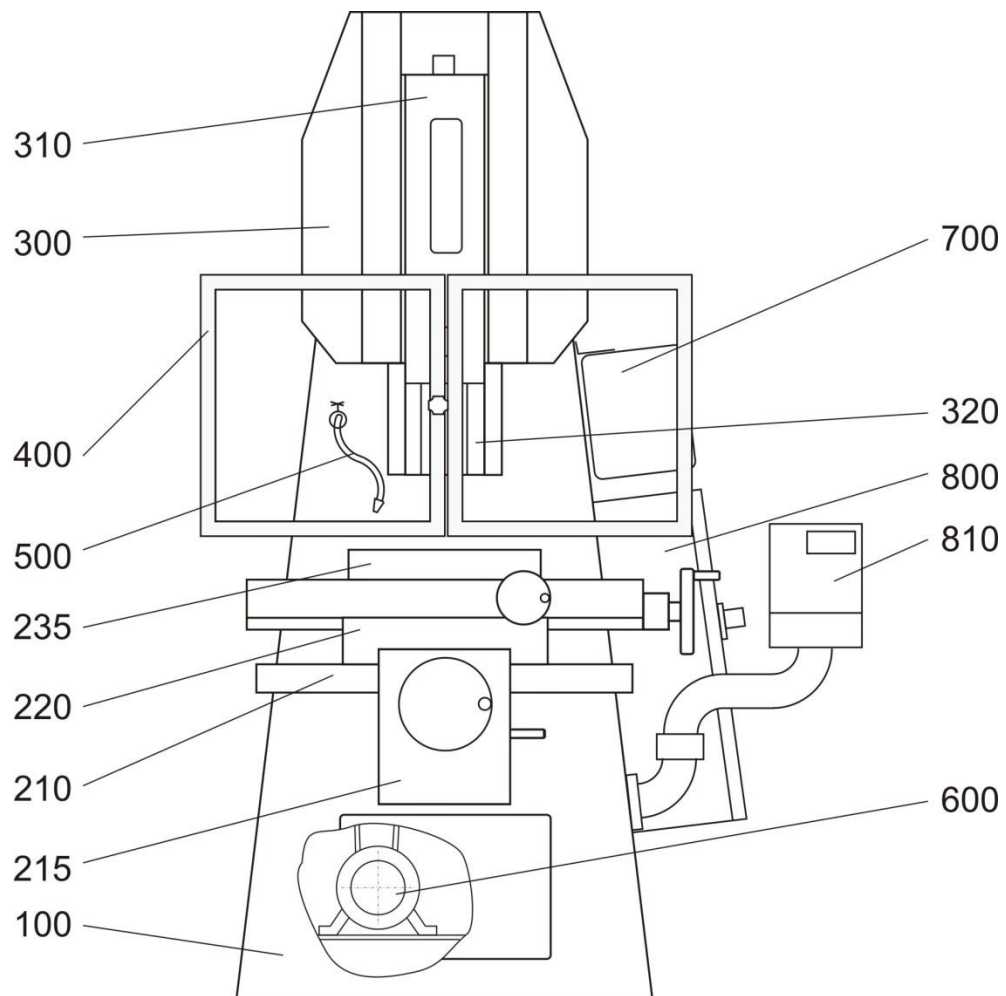
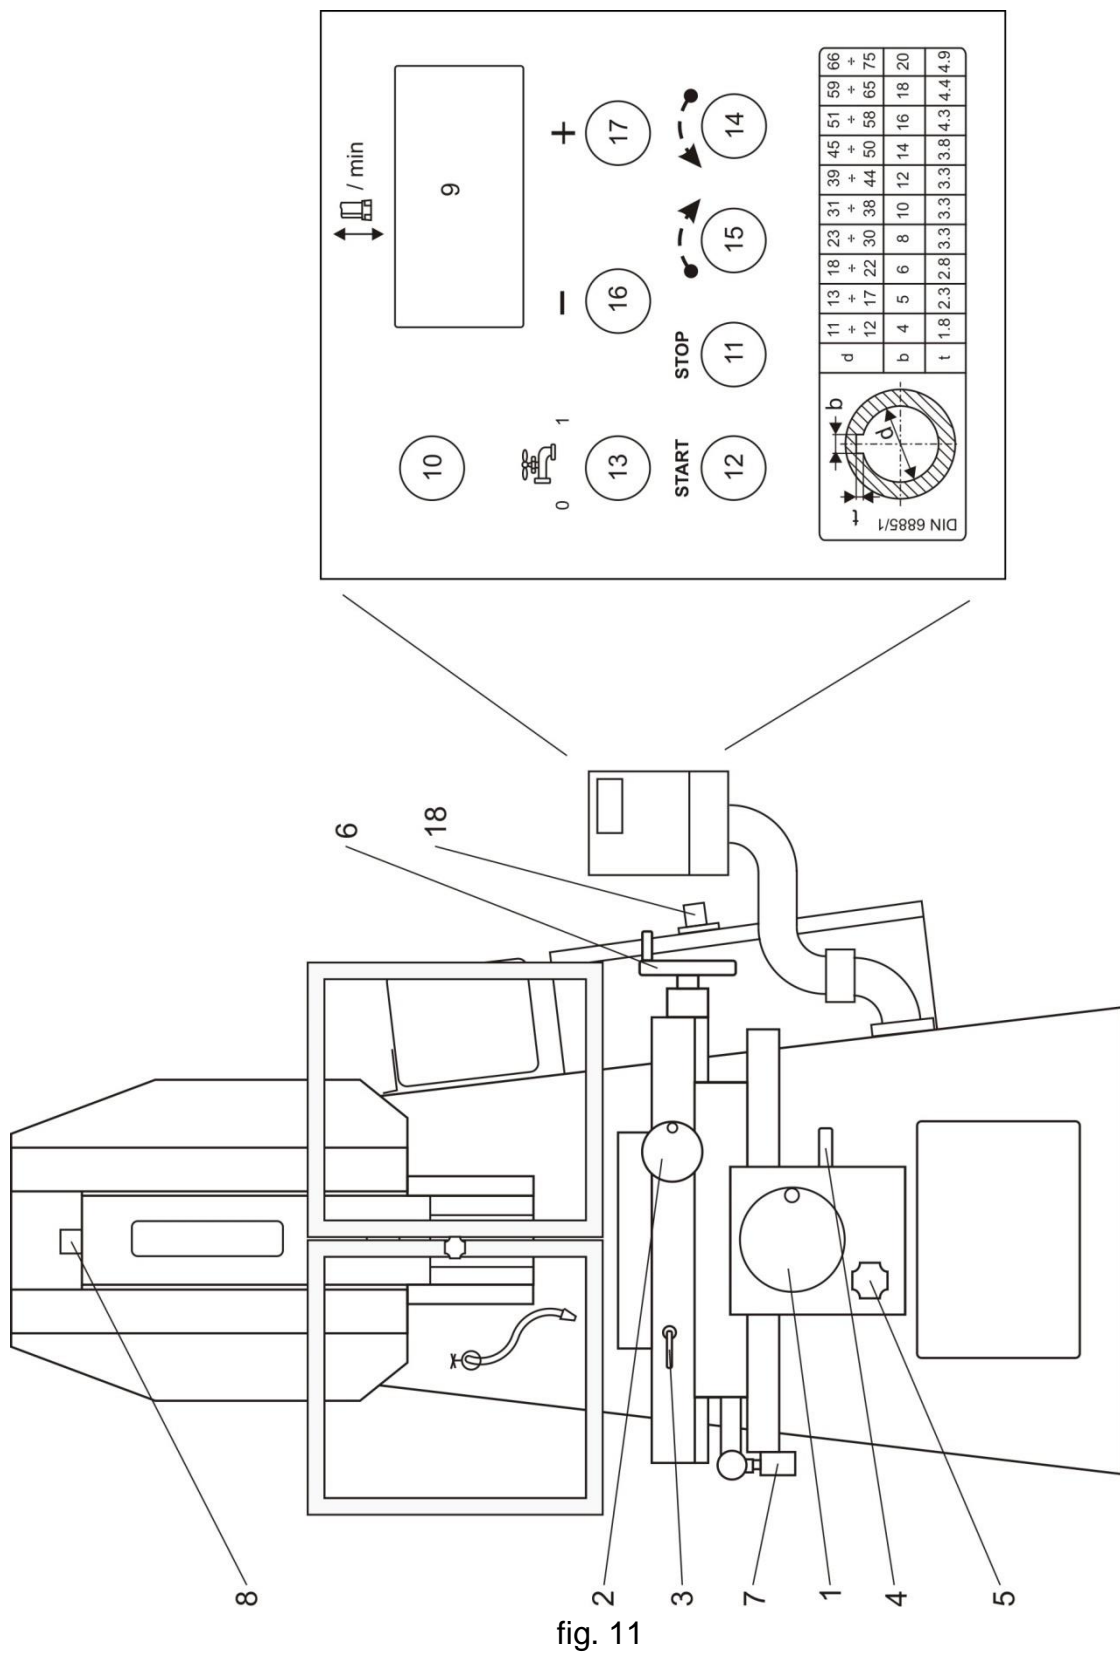
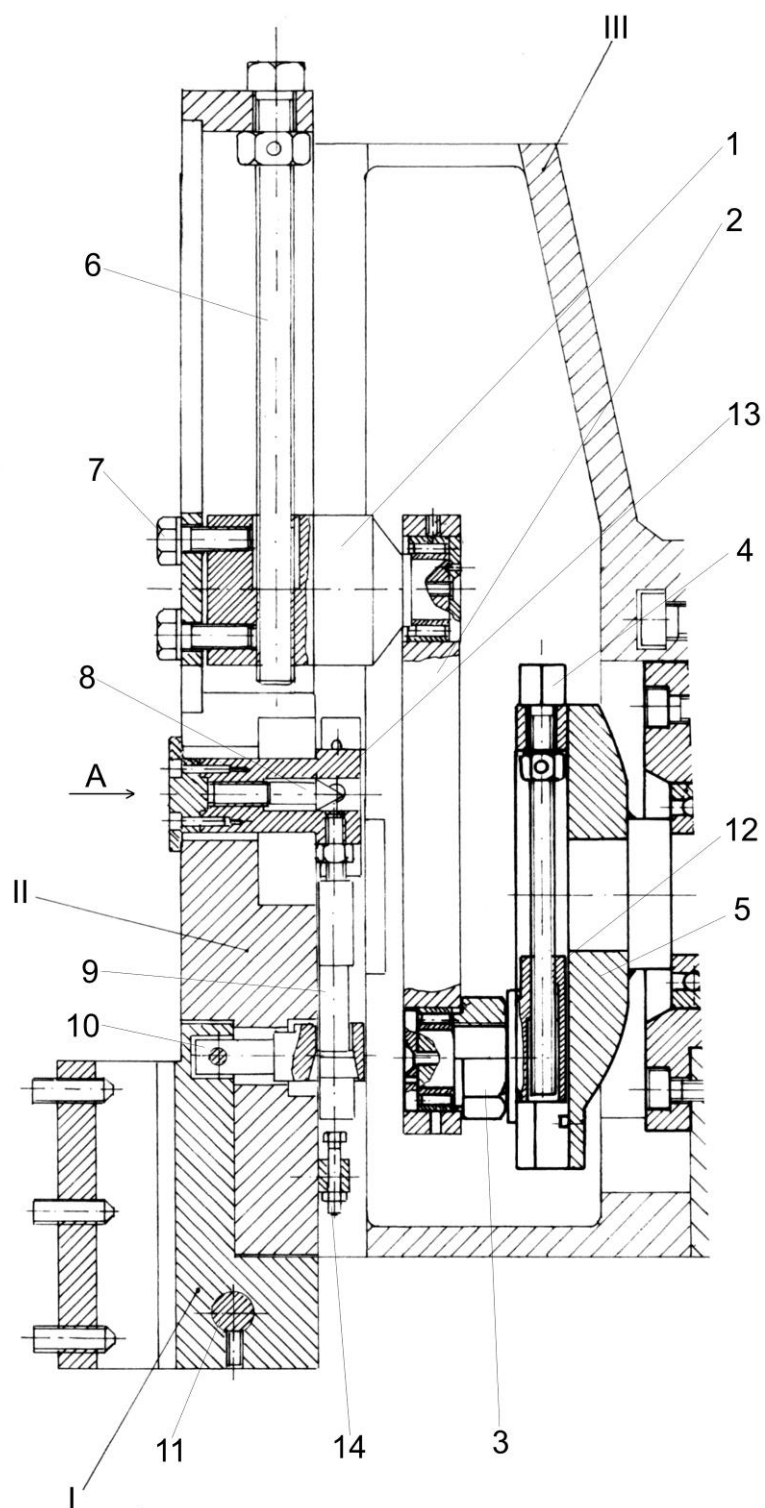
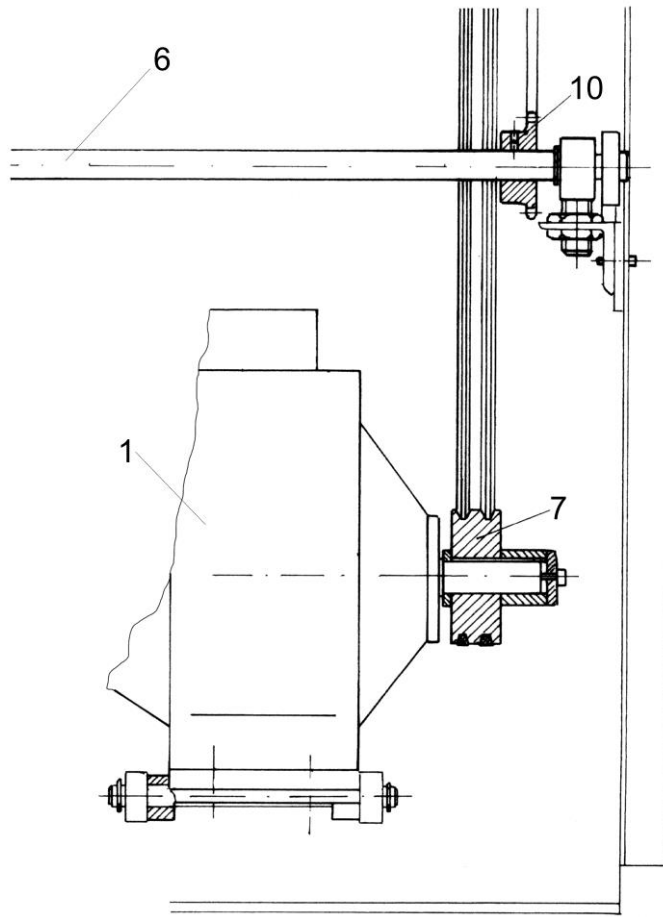

fig. 10
fig. 11
fig. 15
fig. 16
Fig. 10 shows a general view of the machine, where the positions 100 – 810 identify the main machine assemblies (groups).
Fig. 11 shows the machine controls.
In fig. 10, “100” denotes the machine body. It supports all other assemblies and ensures stability of the machine during work. It is manufactured as a welded structure of steel sheet material.
In fig. 10, “210” denotes the base of the . It bears the intermediate slide and the rotating table.
In fig. 10, “215” denotes the gear box. Its main function is to produce automatic transverse feed of the table.
It is driven by the shaft 1. To the front end of the shaft is fitted a cam 2 with a radial ball bearing 3 on it. When the shaft 1 rotates, the bearing pushes the rocker 5 upwards. It in turn abuts against the cam 4, which is connected to the handle for adjustment of the automatic transversal feed (pos. 5 in fig. 11). The higher the cam 4 raises the rocker 5, the smaller is the contact area between it and the cam on the bearing 3, i.e. the rocker and the rack bar 6 driven by it will have a smaller stroke.
In fig. 10, “220” denotes the intermediate slide. Its main function is, by moving along two perpendicular slideways, to connect the base and the table of the machine. On the transversal guide, the intermediate slideway and the assemblies on it move in direction from the operator to the machine (transversally) and along the other guide the table moves longitudinally. Longitudinal movement is performed only manually, by using the turnwheel 6 shown in fig. 11, while transversal movement may be performed manually or automatically - by the drive gear box. Automatic movement is only possible in the direction from the operator to the machine.
In fig. 10, “235” denotes the rotating table. There is no principal difference between S200TGI and S315TGI. The differences are in the dimensions. The table diameter for S200TGI is 315 mm, and for S315TGI – 450 mm.
In fig. 10, “310” denotes the ram of the machine. It moves forth and back and bears the tooholder. The ram is fine machined to match the guiding surfaces of the head. Its cutting stroke can be adjusted continuously from 0 to 205 mm for S200TGI and to 320 mm for S315TGI.
The ram stroke length can be increased or decreased in the following manner – fig. 15.
It can be achieved as follows – fig. 15.
In fig. 10, “320” denotes the toolholder of the machine. In fig. 15 it is denoted by “I”. The toolholder is equipped with a lever, whereby, during the upward (non-cutting) travel of the ram, the tool is pulled apart from the channel surface to prevent friction.
In fig. 10, “400” denotes the protective guard of the machine working area.
In fig. 10, “500” denotes the cooling system. The coolant tank is accommodated in the machine body (the front left part), on a special stand. It can be serviced after opening the machine front cover. The cooling fluid is drawn by the pump on the tank cover to the frontal intermediate wall of the body and goes out behind the working area. The return fluid is collected via side channels in the central part of the base where, through an inlet, it enters back the tank. The coolant tank can be removed for cleaning and replacing the cooling fluid at regular intervals of time depending on the load on the machine and in particular on the cooling system. In most cases the required coolant flow is very low and is adjusted by the tap before the nozzle.
In fig. 10, it is denoted by “600”. The main drive motor 1 (fig. 16) is mounted on a special suspension support to the body, which stretches the belts conveying the drive from the pulley 7 to the pulley 8 and then to the reduction gear 3. Its reduction ratio is 1:16 and it has a hollow output shaft mounted on the shaft 4. The shaft 4 is welded to the connecting rod and machined together with it. It is supported by two radial ball bearings in the flange 5. Thus the rotation motion is transmitted from the motor to the shaft mounted on the connection rod 4 and is transformed into linear forth and back motion of the ram.